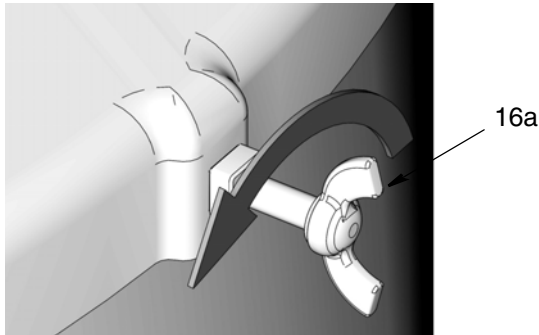

FIG. 24
2. Remove drum cover (16) by loosening thumb screws (16a) (FIG. 24).